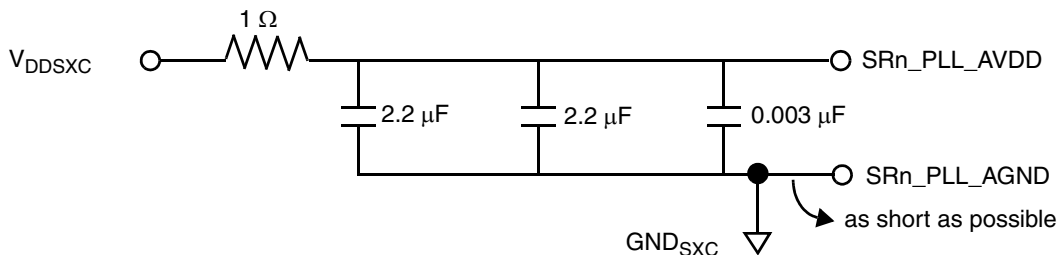

Figure 38. SerDes PLL Supplies
- Couple inputs SR1_PLL_AVDD and SR2_PLL_AVDD with SXCVDD1 and SXCVDD2 power rails, respectively, using an RC filter (see Figure 38).
Each SerDes PLL power supply must be filtered using a circuit similar to the one shown in Figure 38, to ensure stability of the internal clock. For maximum effectiveness, the filter circuit should be placed as closely as possible to the SRn_PLL_AVDD ball to ensure it filters out as much noise as possible. The ground connection should be near the SRn_PLL_AVDD ball. The 0.003 μF capacitor is closest to the ball, followed by the two 2.2 μF capacitors, and finally the 1 Ω resistor to the board supply plane. The